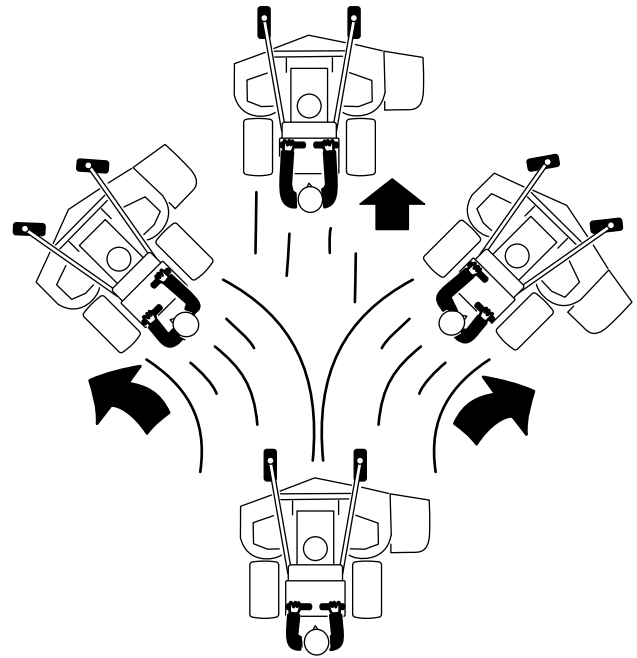

Figure 15
3. Slowly push the motion-control levers forward (Figure 15).